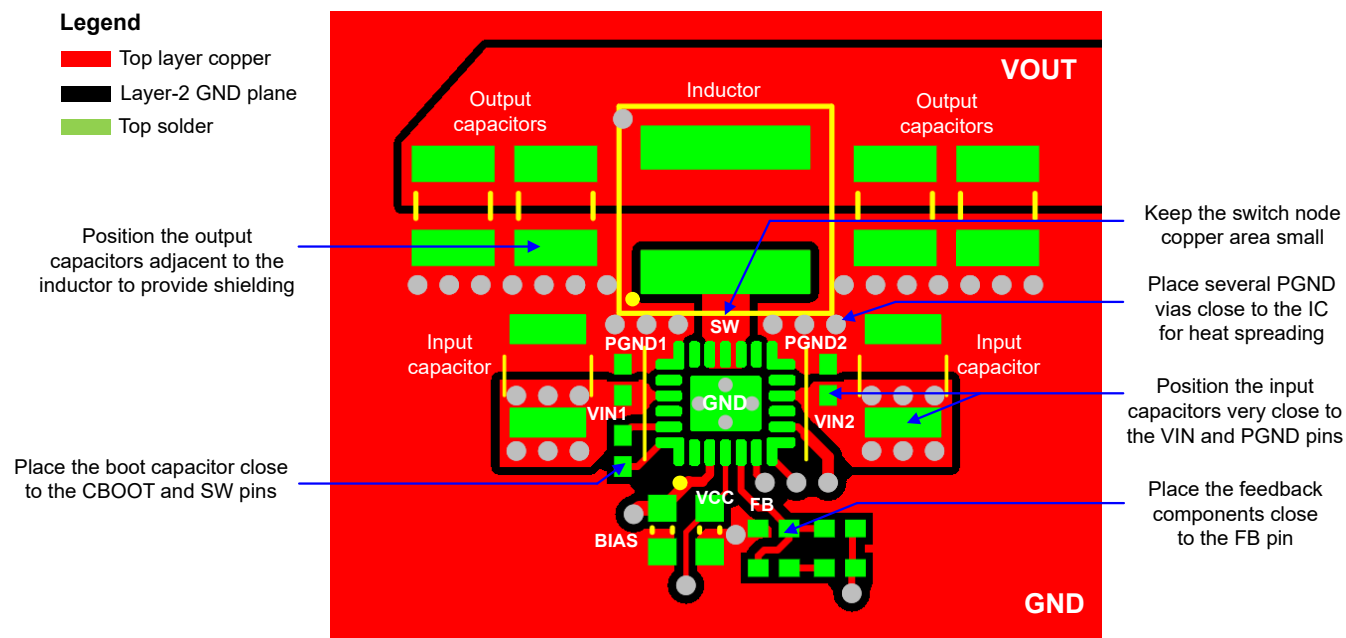

图 8-22. PCB Layout Example
The following list summarizes the essential guidelines for PCB layout and component placement to optimize DC/DC converter performance, including thermals and EMI signature. 图 8-22 shows a recommended layout of either the LM64440-Q1 or LM64460-Q1 with optimized placement and routing of the power-stage and small-signal components.
- Use low-ESR ceramic capacitors with X7R or X7S dielectric from VIN1 to PGND1 and VIN2 to PGND2. Place an 0402 capacitor close to each pin pair for high-frequency bypass as shown in 图 8-22. Use an adjacent 1206 or 1210 capacitor on each side for bulk capacitance.